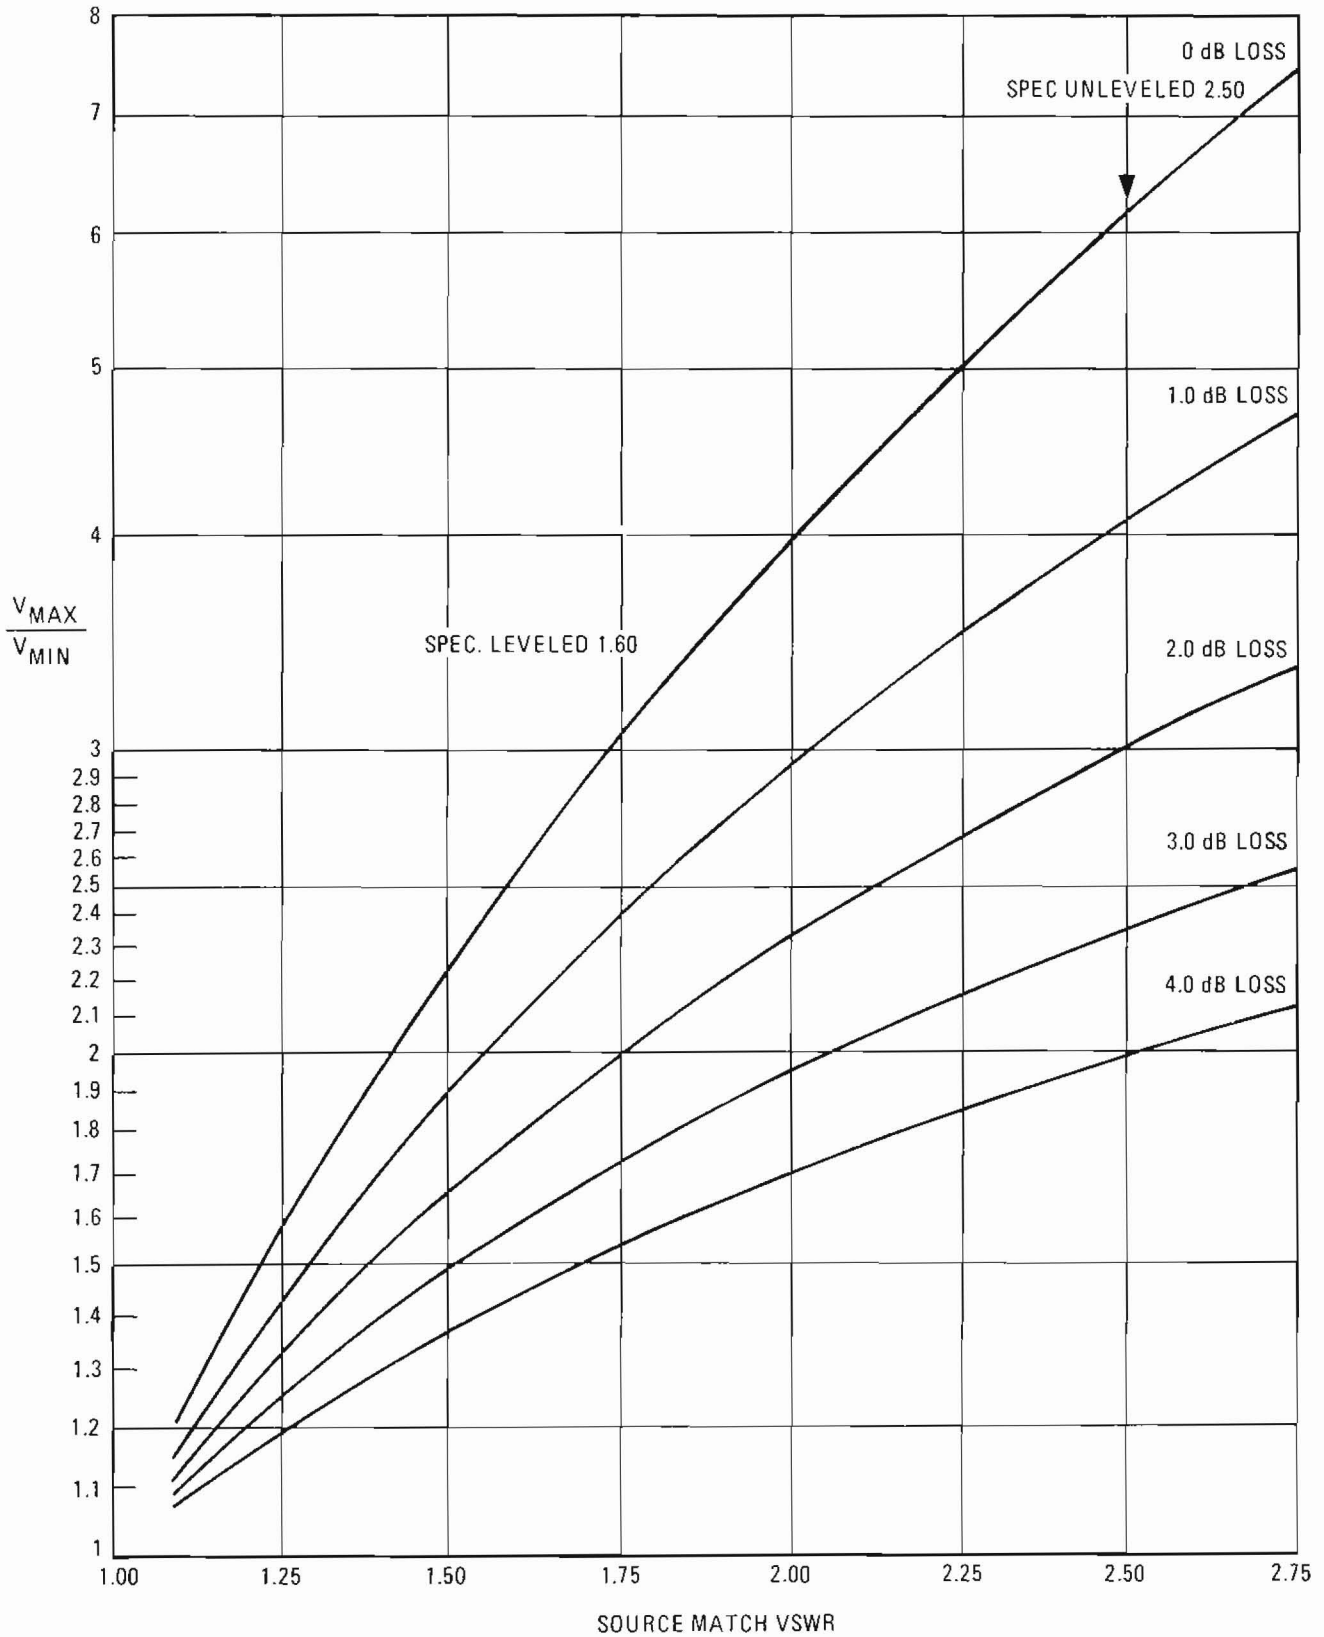

Figure 4-10. Graph to Convert Oscilloscope Trace to Source Match SWR
g. Convert V_{MAX}/V_{MIN} ratio noted in step e into source match SWR, using Figure 4-10 and the cable loss calculated in step f. The SWR value should be <1.3:1.